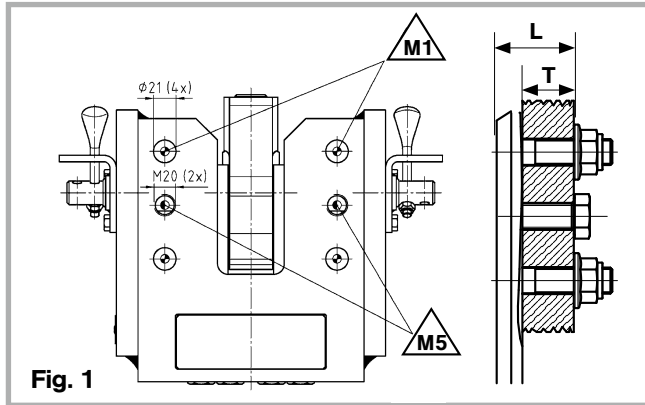

Fig. 1
- The towing bracket (see fig. 1) should be bolted for RO★908H61001 / RO★908H62 001 in front of the cross member with 4 flange bolts M 20 x 1.5 x 85 lg – 10.9* for coupling RO★908H61501 / RO★908H62 501 with 4 flange bolts M 20 x 1.5 x 110 lg – 10.9* 4 flange lock nuts M 20 x 1.5 – 10 (lock nuts with metal stop) **M1** of 600 Nm.**